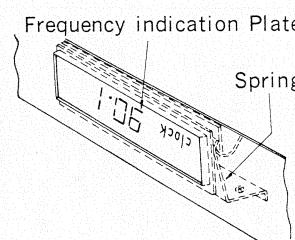
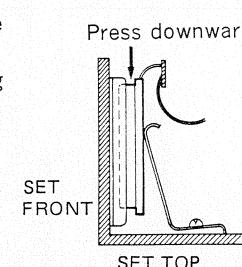

Fig. 2
Fig. 3
5. The frequency indication plate is pressed against the front panel by spring as in Fig. 2. Therefore, first press down the frequency indication plate as in Fig. 3.